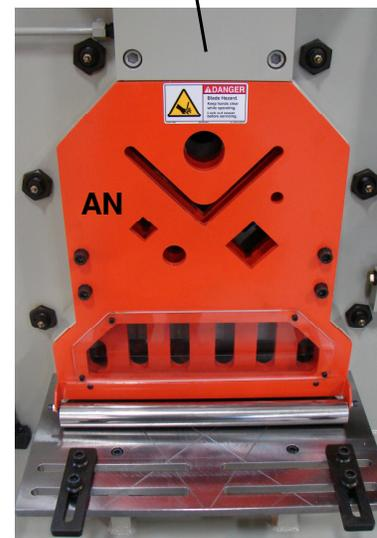
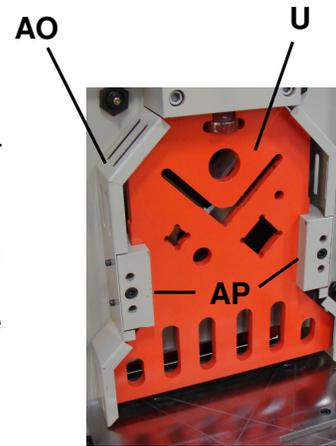

figure 5
figure 8
- 3) Remove the roller plate (**AN**) (fig. 5), side shields (**AO**) and guide bars (**AP**) (fig. 8)